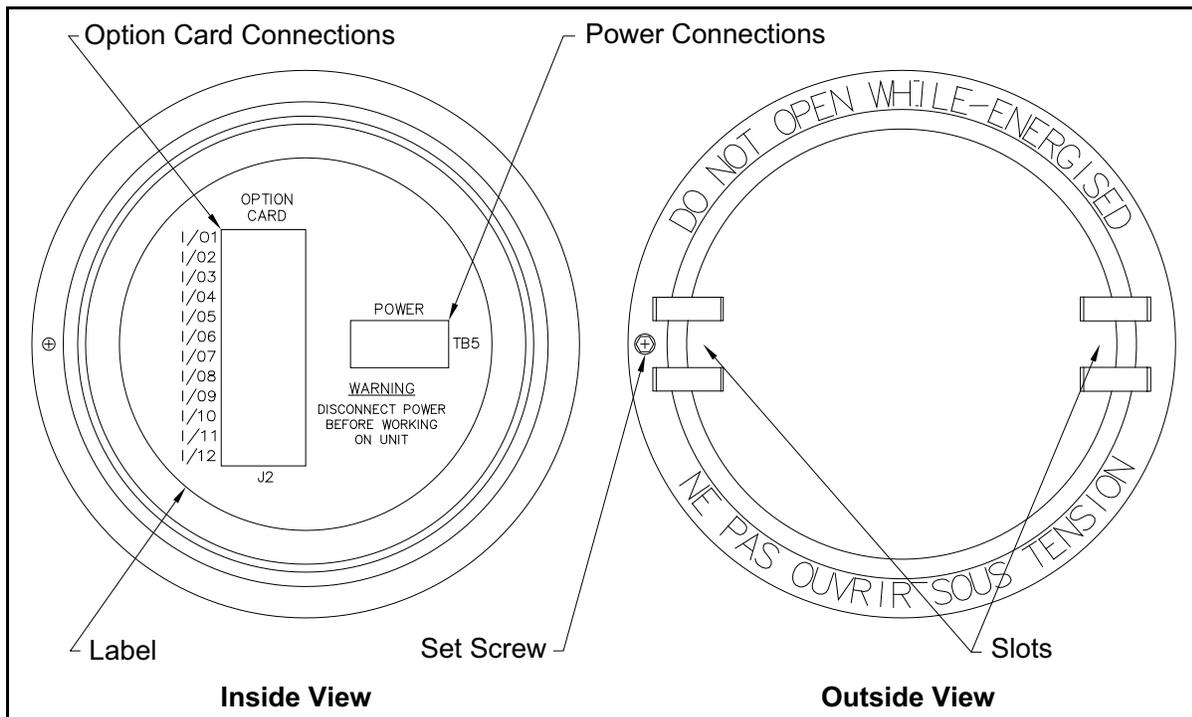

Figure 3: Rear Cover with Connection Labels
Refer to *Figure 3 on page 6* and prepare the Model XMT868i for wiring by completing the following steps:
3. Locate the 12-pin terminal block (J2) in Figure 10 on page 23 and wire the option card as indicated on the label inside the rear cover (see *Figure 3 on page 6* and *Figure 11 on page 24*). Secure the cable clamp.